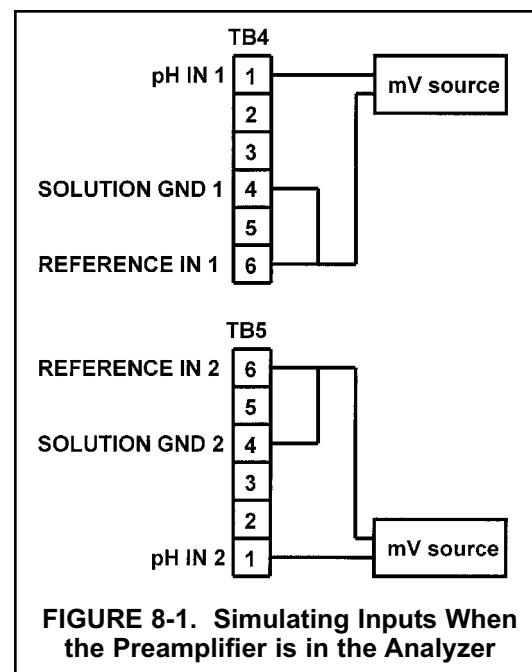

FIGURE 8-1. Simulating Inputs When the Preamplifier is in the Analyzer
4. If a standard millivolt source is available, disconnect the jumper wire between pH IN and REFERENCE IN and connect the voltage source as shown in Figure 8-1. Be sure to jumper the reference and solution ground terminals.